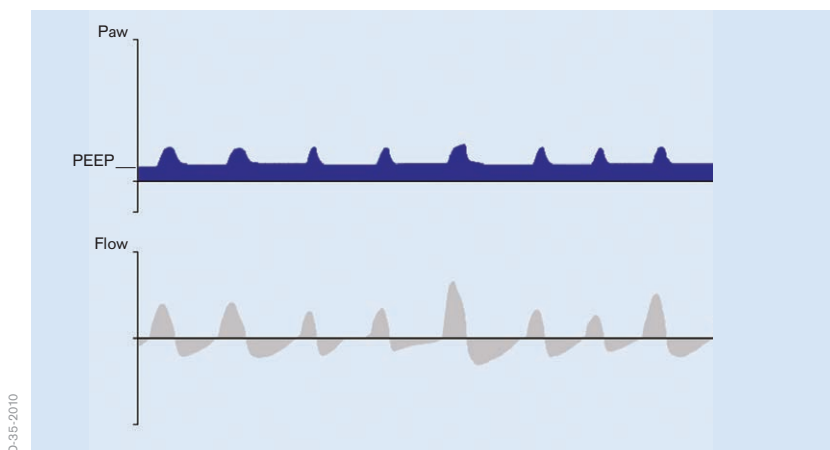

Figure 39: SPN-PPS
- flow- and volume- proportional pressure support (Figure 39)